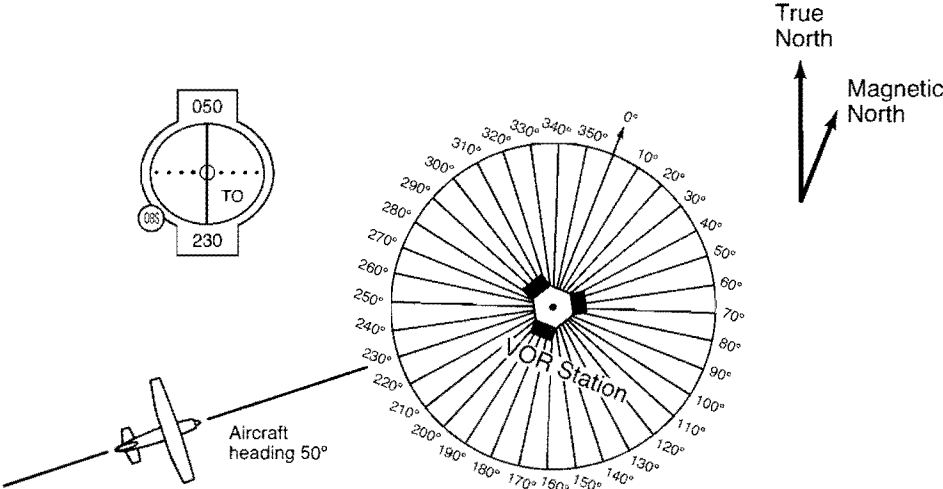

Figure 15. Flying to a VOR Station
1. Select a VOR station on the map and tune the NAV1 receiver to the station. Refer to Figure 15.